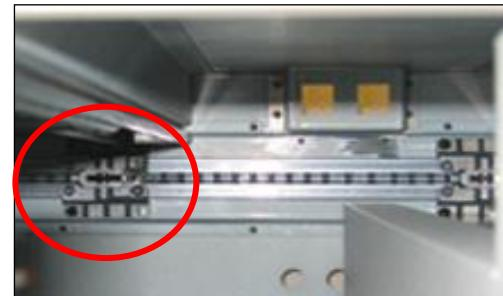

Figure 66. Locking fork.
**Step 3.** You must close the locking fork at the back of the cabinet which corresponds to the drawer you removed before you can remove the next one (see Figure 66). Place the drawer out of the way, taking care not to damage the metal work, and repeat the process for each drawer in the cabinet. Once the cabinet is in position, the drawers can be easily replaced after leveling the unit.
The IntelliCab System is equipped with drawer locks featuring an anti-tilt mechanism to allow only one drawer to be opened at a time. Before replacing a drawer that has been removed, make sure the **locking fork** (located on the inside back wall of the cabinet –see Figure 66) for the drawer to be replaced is **open** and can accept the drawer.